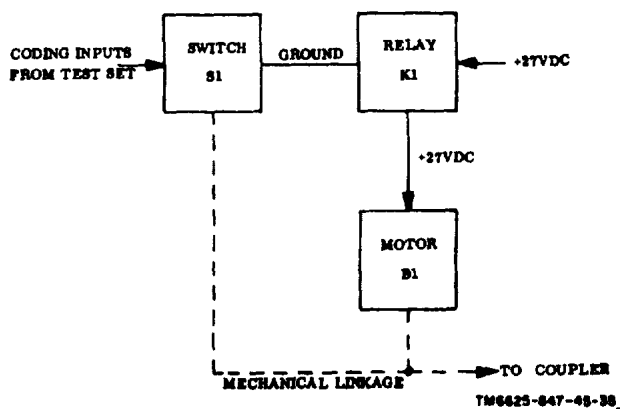

Figure 1-16. Gear drive assembly functional block diagram
(fig. 1-11, fig. 1-16, fig. 3-17(1), and fig. 6-7)
c. Refer to figures 1-16 and 6-7 in the following discussion. Switch A1S1 is a 28-position rotary switch positioned by the shaft of motor A1B1. A ground on one of the contact terminals of switch A1S1 will energize relay A1K1 if the shaft of motor A1B1 is not at a position that is representative of the frequency selected on the test set. Relay A1K1, when energized, supplies +27-volt dc to energize motor A1B1. motor A1B1 will then rotate and reposition the mc shaft coupler and connecting switch A1S1 until an open circuit is reached. Upon